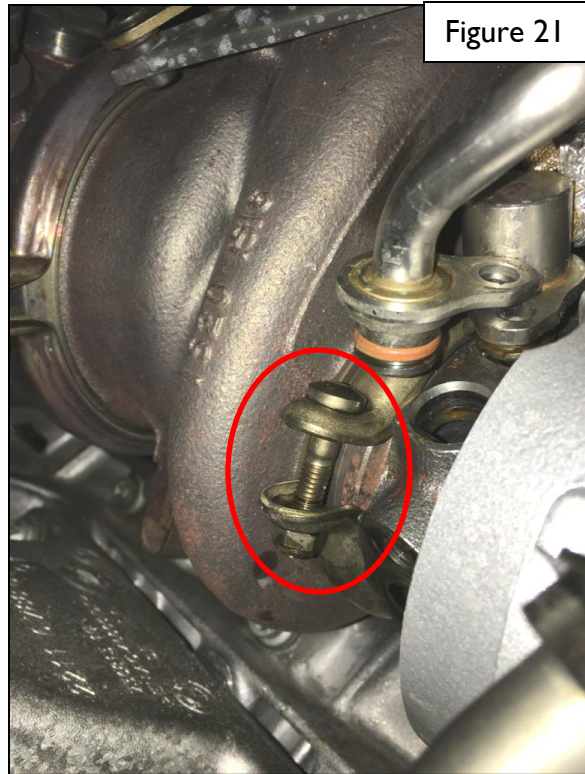

Figure 21
- Undo the clamp that holds the turbo to the manifold (see Figure 21).